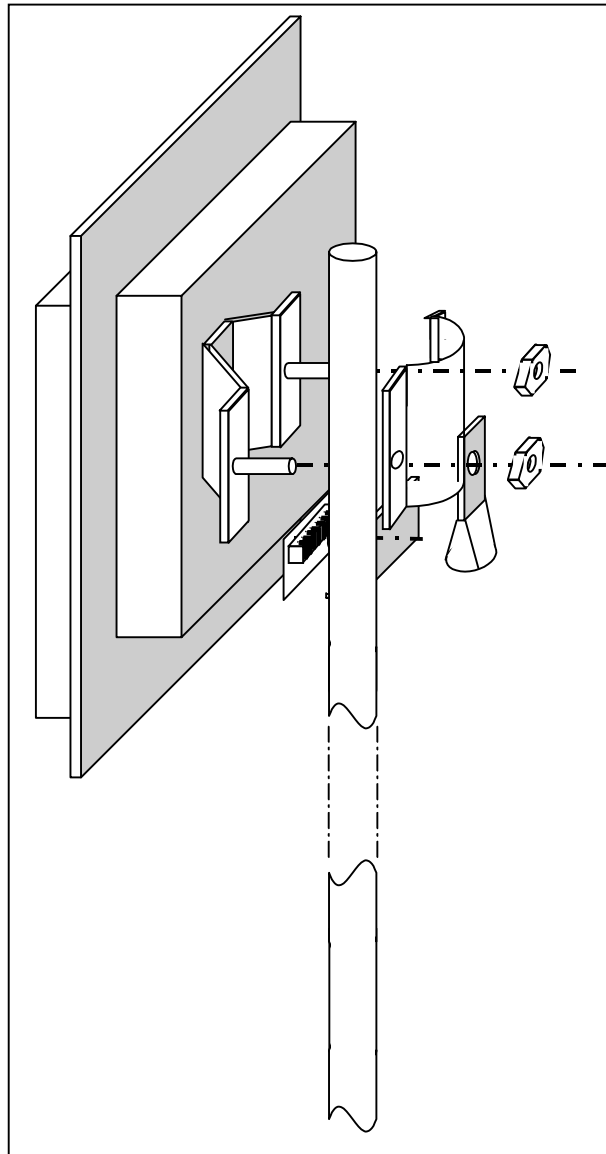

Figure 4.CPE outdoor installation
2. Affix the antenna to the pole using the enclosed bracket and screws, as shown in Figure 4, page 12.
1. Attach the ground cable to the Outdoor Unit as shown in Figure4.